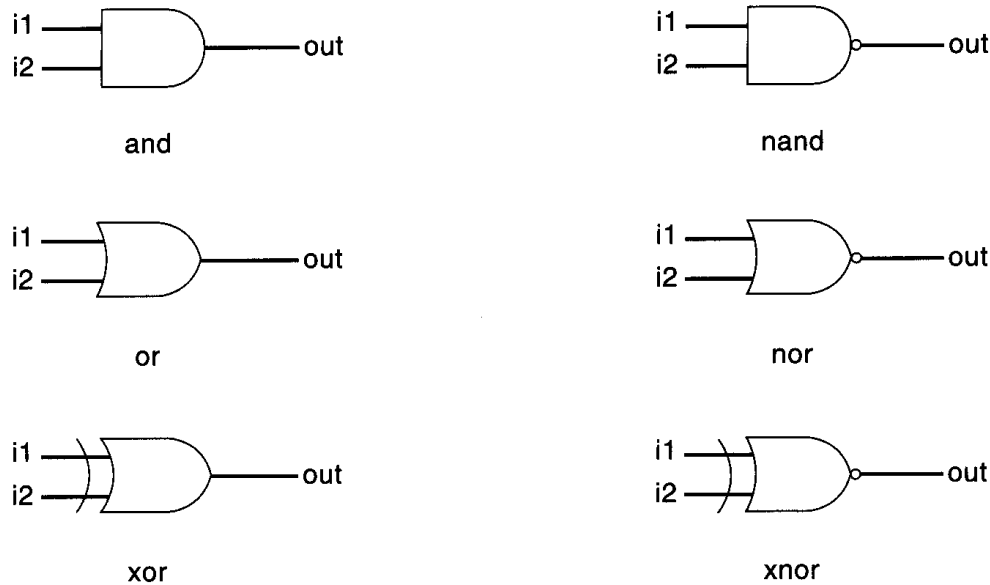

Fig.3.1: Logic Gates
- The logic symbols for the corresponding gates are shown in fig.3.1. The output terminal is denoted by out and the input terminals are denoted by i1 and i2 for a two input gate.
- Gate instantiation statement of And/Or gates shown in fig.3.1 can be written as